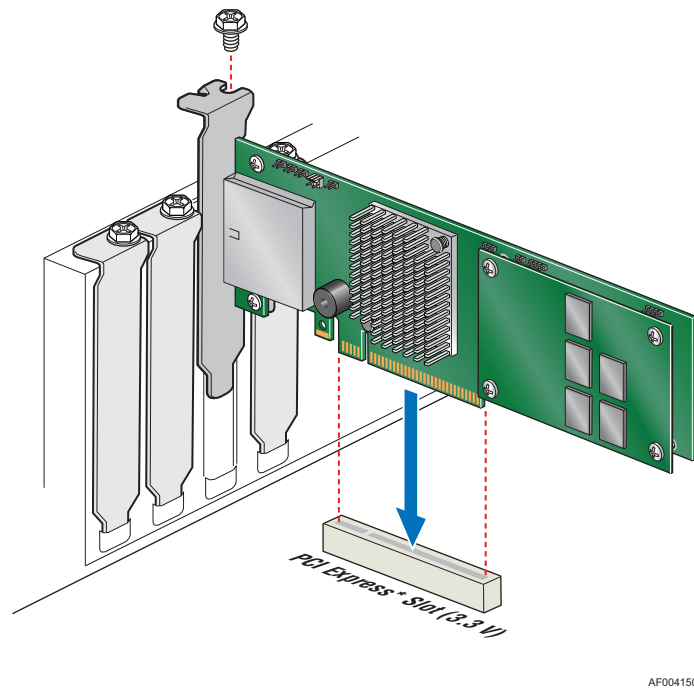

Figure 2. Installing the Intel® RAID Controller RS25SB008
4. Install the RAID controller into an available server system x8 or x16 PCI-Express* slot (see Figure 2). To locate an appropriate slot and for instructions on installing an add-in card, see your server system documentation.